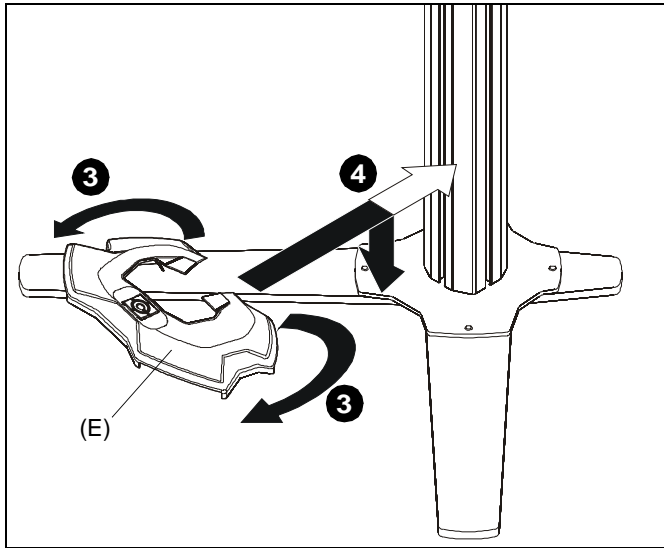

Figure 4
3. Carefully manipulate base cover (E) to create an opening large enough to wrap cover around array column. (See Figure 4)
4. Wrap base cover around column and slide it down until base cover fits securely onto table top base (C). (See Figure 4)